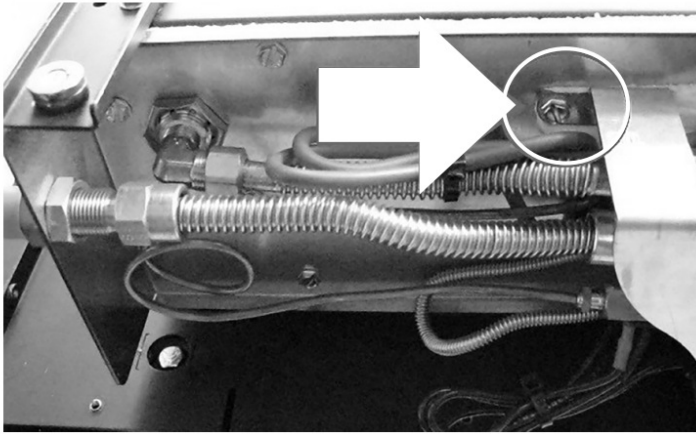

Figure 1
1. The burner is held in place by 4 sheet metal screws, 2 on the left and 2 on the right. To make access to these screws easier, we are going to loosen the valve bracket so it can be moved slightly. Figure 1 shows the screw on the left under side of the firebox securing the back of the valve bracket, remove this screw. Keep this screw in a safe place as it will be needed to secure the valve bracket again once the logset burner is installed.